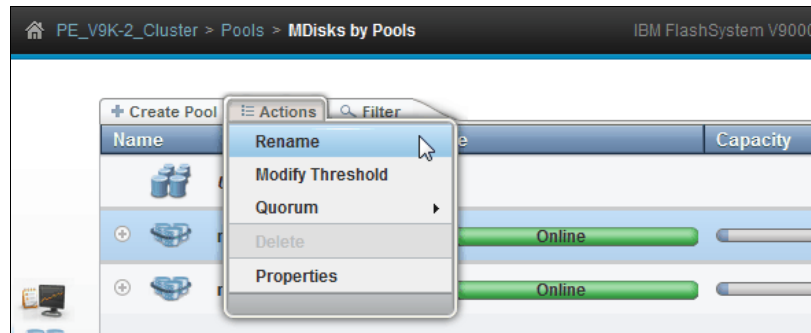

Figure 8-74 Renaming a storage pool
1. Select the storage pool that you want to rename and then select **Actions** → **Rename** (Figure 8-74).